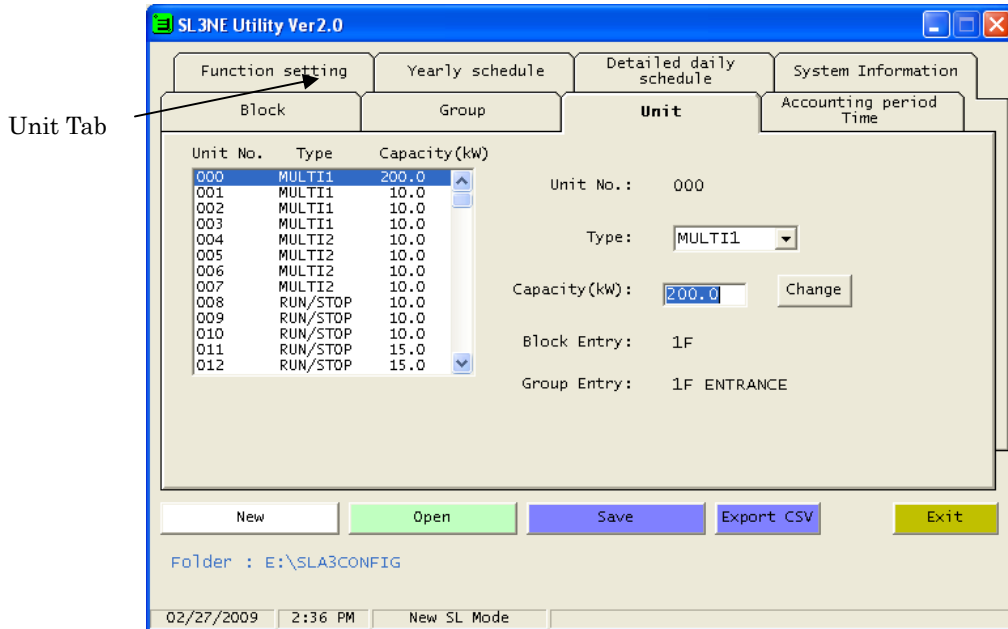

Fig.8 Unit Definition screen (New SL Mode)
- Click on the "Unit" tab, the Unit Definition screen shown in Fig.8 will appear.